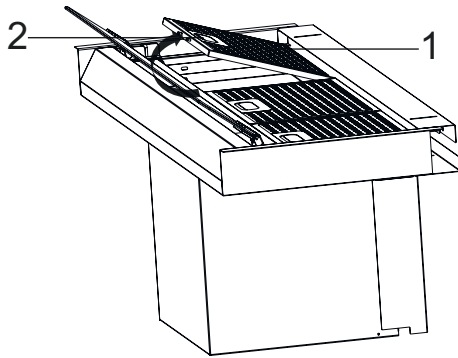

Fig. 12
1. → Remove the appliance package and place the aluminium filters facing upwards. (Fig. 12).
Press the aluminium filter latch (Fig. 12/1) and pull upwards (Fig. 12/2) to remove.